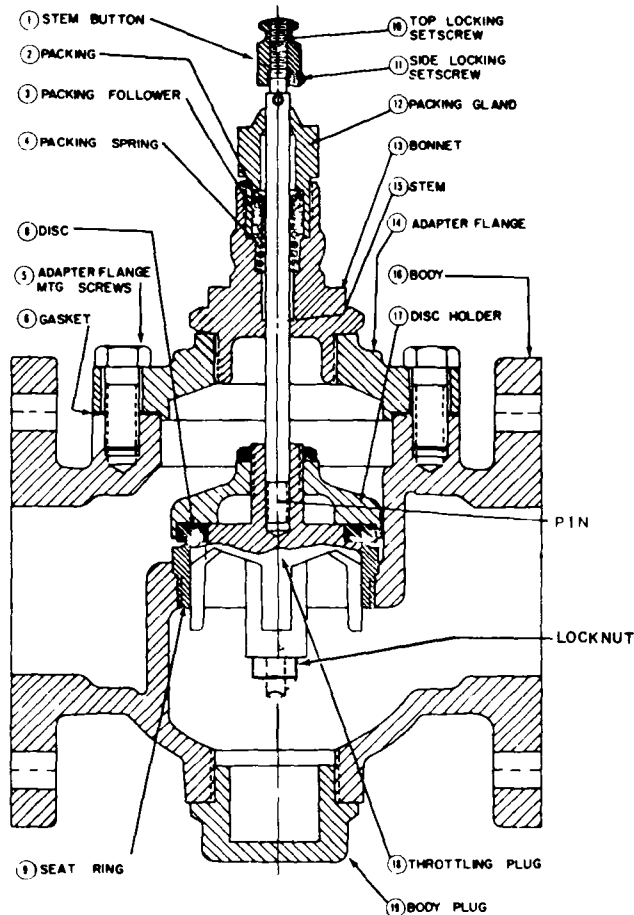

Fig 5 Cutaway of Typical V5011A and D Flanged Type Body
- c. Direct Acting Flanged Valves (V5011A) - Remove the bonnet together with the adapter flange that is attached with mounting screws (Fig 5). Lift out the stem and plug assembly.